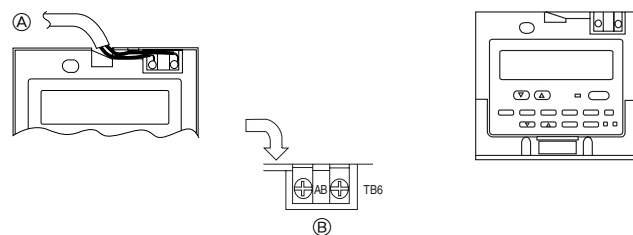

Fig. 7-8
2) Connecting procedures (Fig. 7-8)